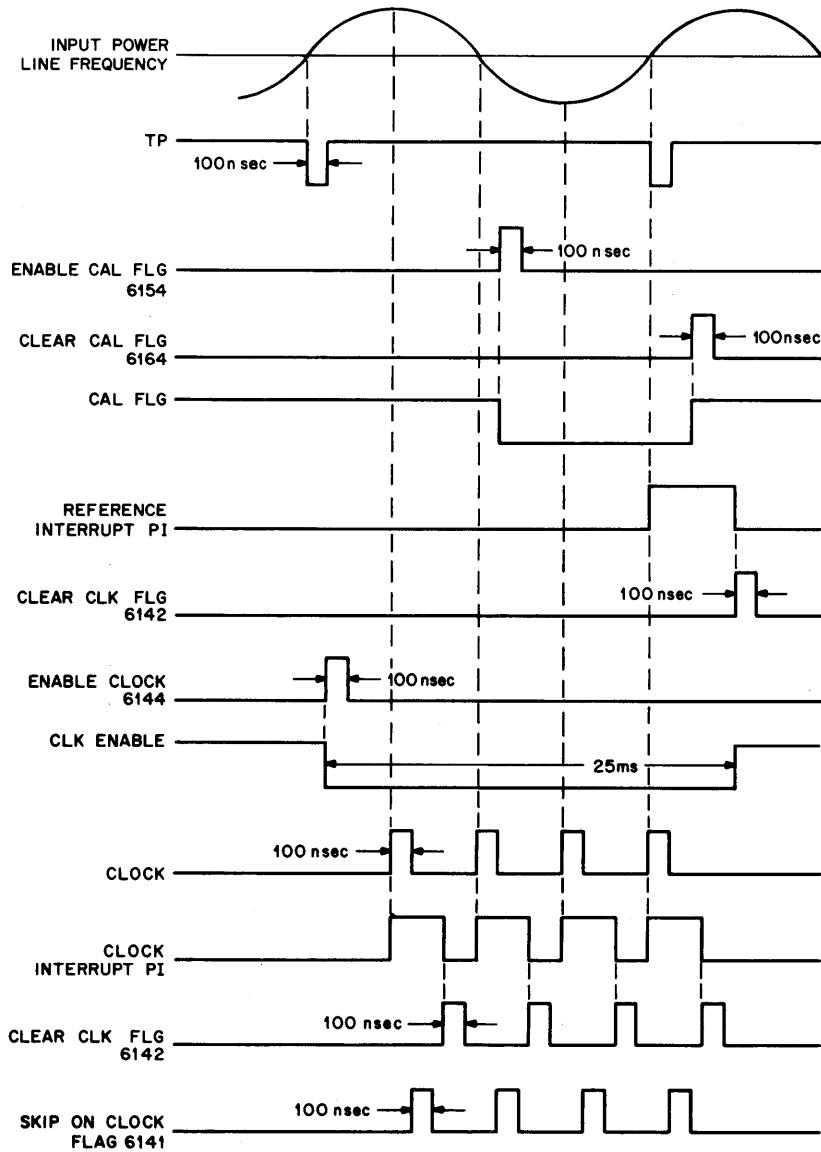

Figure 3-9 DK01A Timing Diagram
3.5 DK01-A FOUR TIMES LINE FREQUENCY CLOCK (See Figures 3-9, 3-10, 3-11, and 3-12)
The line frequency sine wave input is fed into the A310 module, which functions as an integrator, inverter, and comparator. The input sine wave is integrated and inverted; the resulting two sine waves are displaced from each other by 90 degrees. These sine waves are then fed into the comparator circuit, which generates two square waves, 90 degrees out-of-phase with each other. Refer to Figure 3-9.